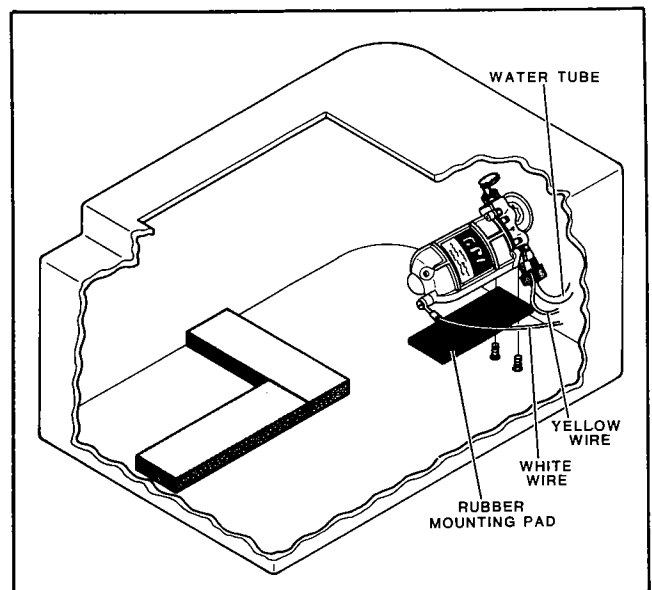

Figure 32. Pump Installation
15. Install the water pump as shown in figure 32.
16. Connect wiring to pump (figure 32).